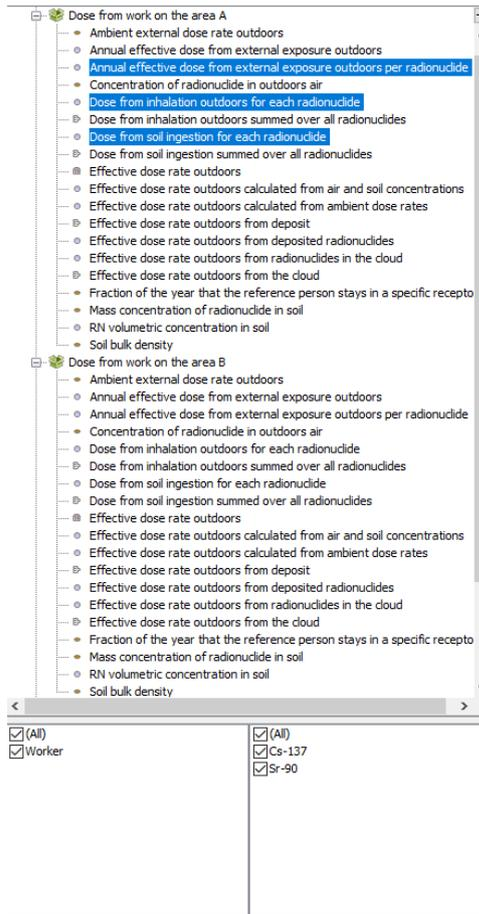

FIG 24. Selecting the needed intermediate dose calculations results for export to MS Excel to calculate “Dose per radionuclide (Area B)” end-point.
2. Make sure that both Sr-90 and Cs-137 are selected (FIG 24) !